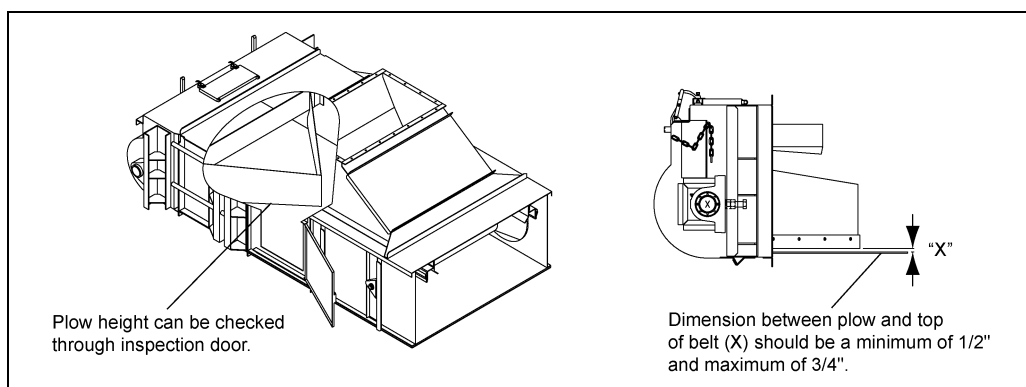

Figure 5C Tail Plow Height Adjustment
9. Adjust the height of the plow in the tail section if necessary. Refer to Figure 5C for details ensuring that the bottom of the plow is between 1/2" and 3/4" above the belt.